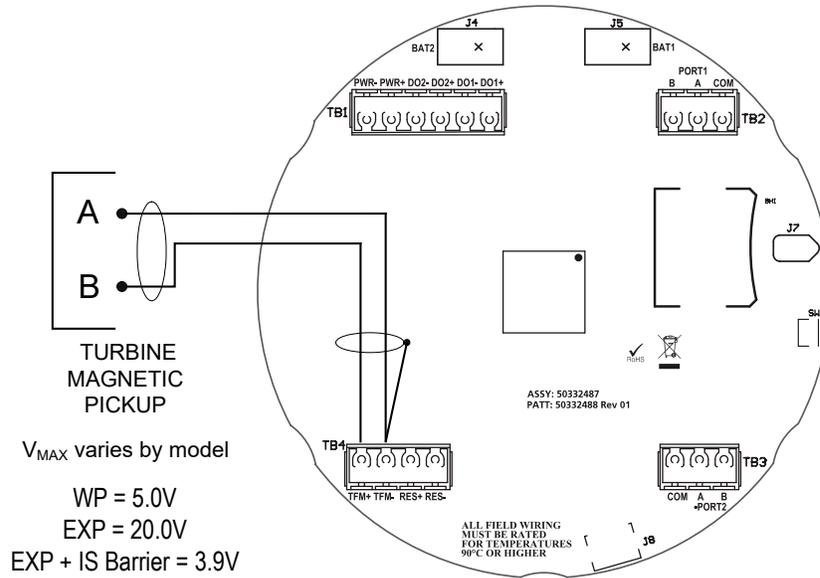
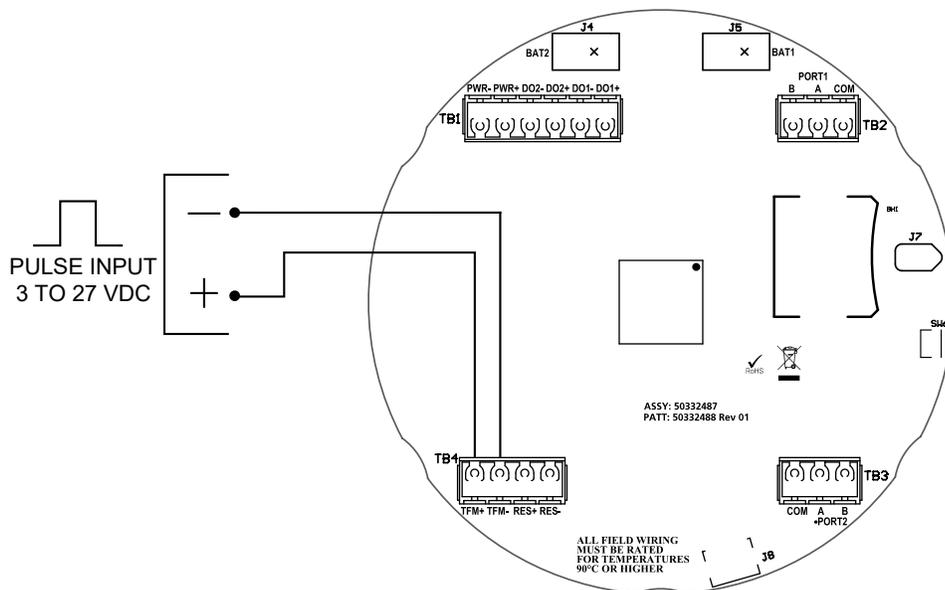

Figure 2.12—Flowmeter input wiring
Figure 2.13—Pulse input wiring
6. Connect the flowmeter or pulse input wiring to terminal block TB4. See Figure 2.12, page 43, and Figure 2.13, page 43.